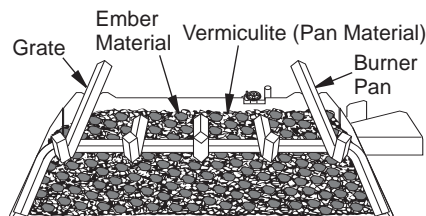

Figure 23 - Ember Material on Surface of Pan Material (Vermiculite)
3. Remove ember material from bag and flatten small amounts into quarter size pieces and lay on top of surface of pan material (see Figure 23).